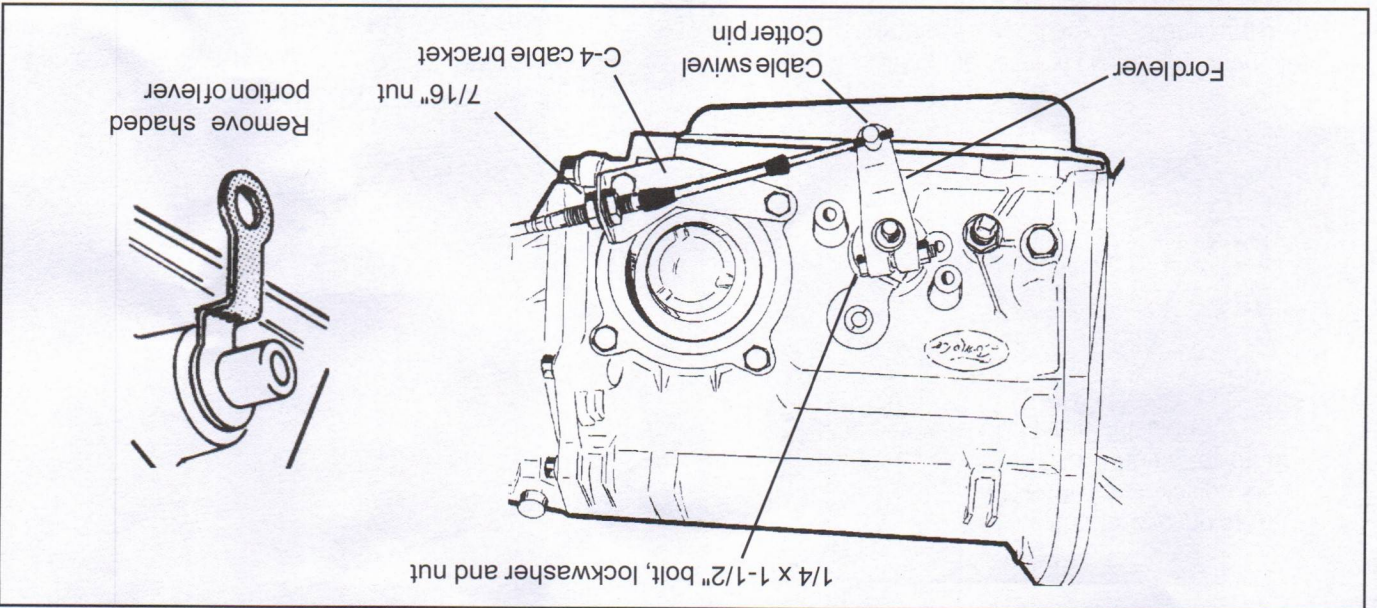

Figure 4
of the stock arm by cutting it off to clear the B&M lever (See Figure 4). Install the B&M selector lever onto the shift shaft of the transmission. Align the selector lever so when it points straight down it travels equal arcs in both directions from the center, then tighten the 1/4"-20 x 1 1/2" bolt and nut. The lever should travel smoothly from front to back with a positive click in each gear position. Make sure the o-ring is in position on the downshift shaft and install the downshift lever in position on the shaft. Install the lockwasher and nut and tighten securely. The downshift lever must operate smoothly. Reconnect the downshift linkage.
STEP 15. Cable bracket installation: C-4, C-5: Remove the two lower bolts from the rear servo cover. Install the cable bracket in position (See Figure 4). Install the two servo cover bolts as removed and tighten to 12-13 lb-ft. Do not overtighten as this can distort the servo cover.
STEP 14. Install the B&M selector lever (See Figure 4 or 5). Note: The B&M lever must point downward for proper operation. If the stock shift lever on your transmission points down, you will have to remove the lower part